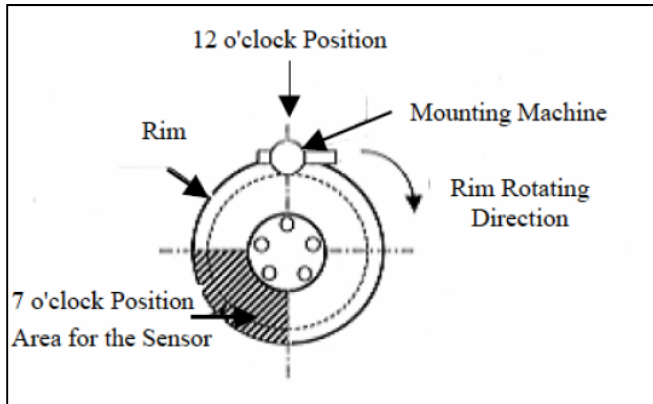

Figure 7a
- b. Position the wheel on the mounting machine with the sensor at 7 o'clock position. See Figure 7a (Shaded Area). Mount/dismount head is considered as 12 o'clock Position.